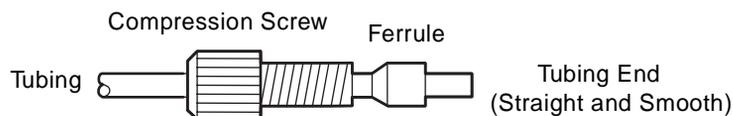

Figure 3-1 Ferrule and Compression Screw Assembly
2. Slide the compression screw over the tubing end, followed by the ferrule, as shown in Figure 3-1. Be sure the tapered end of the ferrule faces away from the end of the tubing.